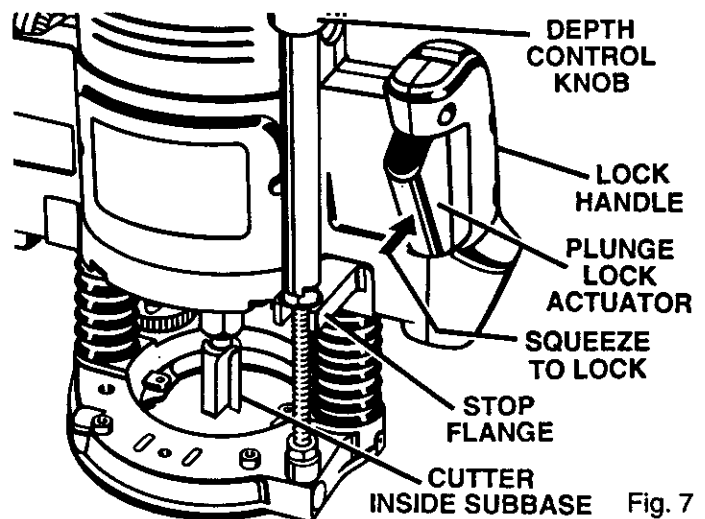

Fig. 7
- Adjust depth control knob until cutter is inside router subbase. See Figure 7.